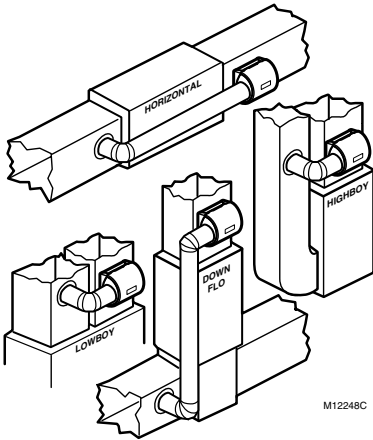

Fig. 1. Typical humidifier installation locations.
- Select a location for the humidifier on the supply (warm air stream) or the return plenum. See Fig. 1.